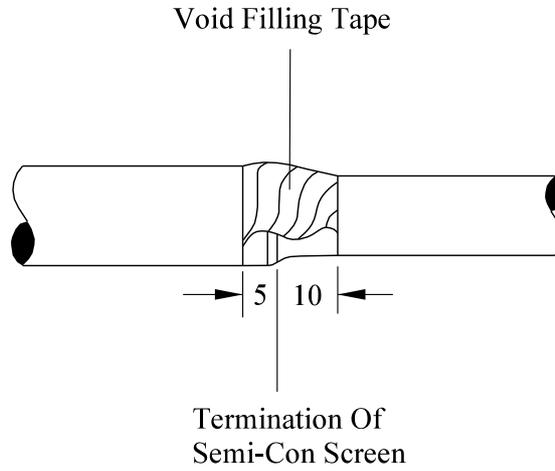

Fig 3
2.1 **Semi-conducting Screens on Polymeric Cables** – place two white Chinagraph marks on the semi-conducting screens, one at 5mm and the second at 15mm both points taken from the semi-conducting screen termination point – Fig 3 & 4.
2.2 Place a third white Chinagraph mark on the core insulation 10mm from the semi-conducting screen termination point – Fig 3.
A sloping profile is to be achieved from the semi-conducting screen termination to the core insulation, the tape being applied with a 50% stretch – Fig 3.